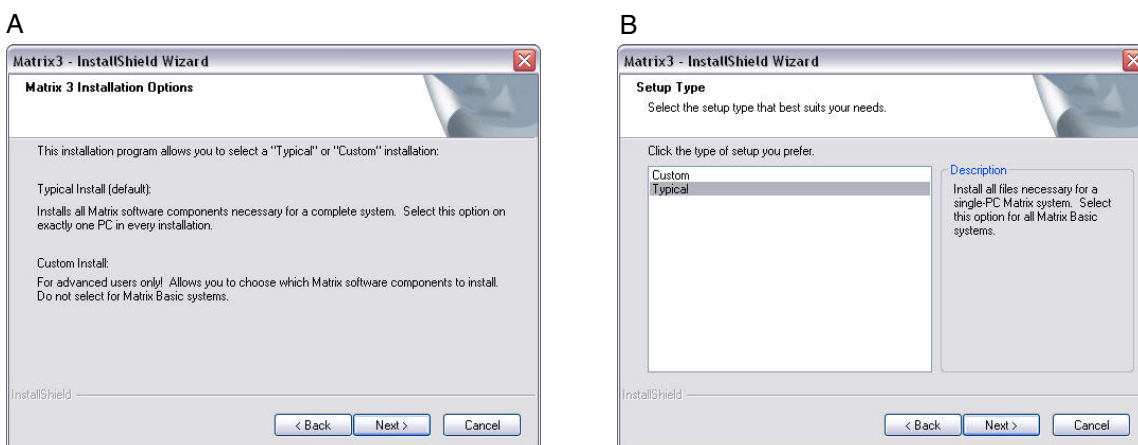

FIG. 5
5. After clicking NEXT to accept the License Agreement, the Installation Options screen (A) shown in FIG. 5 displays. This screen describes the two installation options available for selection.
After clicking NEXT the Setup Type screen FIG. 5 (B) displays. This screen is used to select the type of installation you will do.